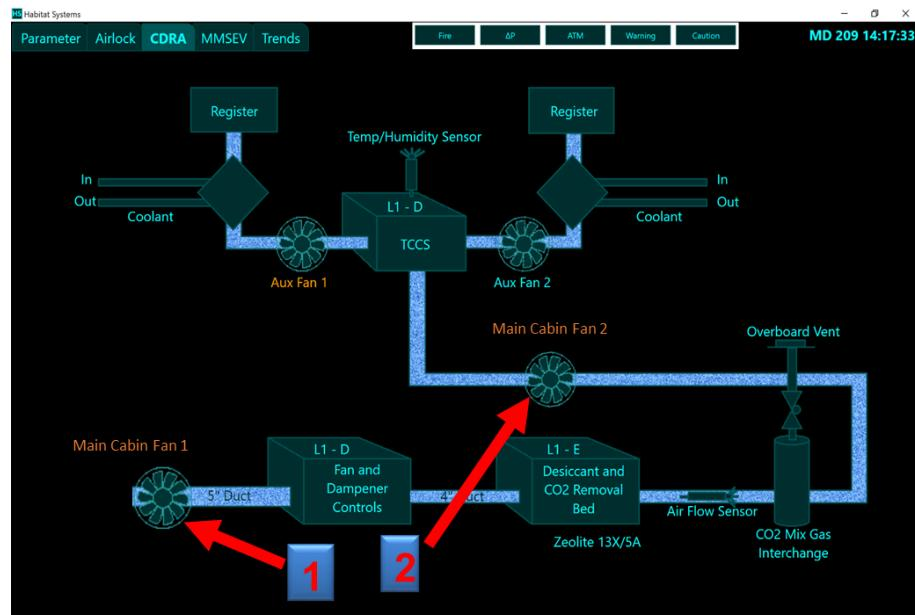

Figure 1: CDRA Assembly: Main Cabin Fan Power Switches
- 1.2 On HSS CDRA display, touch Main Cabin Fan 1 icon to deactivate fans (see Figure 1)
- 1.3 On HSS CDRA display, touch Main Cabin Fan 2 icon to deactivate fans (see Figure 1)
- 8.1 On HSS CDRA display, touch Main Cabin Fan 1 icon to activate fan (see Figure 1).
- 8.2 On HSS CDRA display, touch Main Cabin Fan 2 icon to activate fan (see Figure 1).